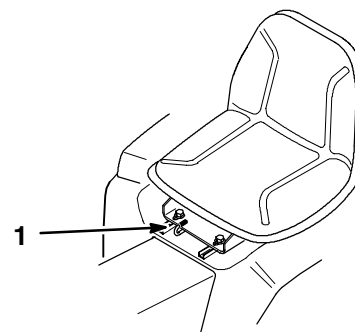

Figure 21
1. To adjust, move the lever sideways to unlock seat (Fig. 21).